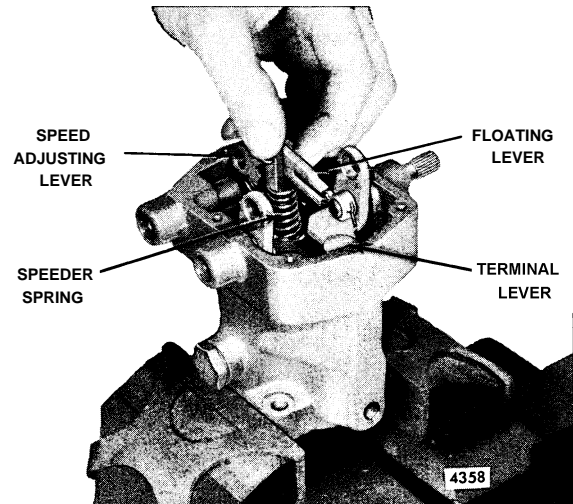

Fig. 13 - Removing or Installing Speed Adjusting Lever, Spring Fork, Speeder Spring and Pilot Valve Plunger Assembly
10. Refer to Fig. 13 and remove the speed adjusting lever, floating lever, spring fork, speeder spring and pilot valve plunger as an assembly.
15. Refer to Fig. 13 and install the speed adjusting lever, floating lever, spring fork, speeder spring and pilot valve plunger as an assembly.